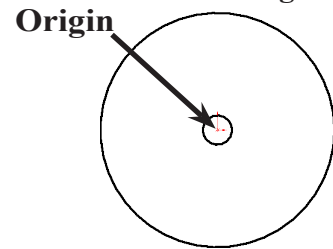

Fig. 2
Step 3. Click **Circle**  (S) on the Sketch toolbar.
Step 4. Draw **two circles** starting at the Origin , **Fig. 2**.